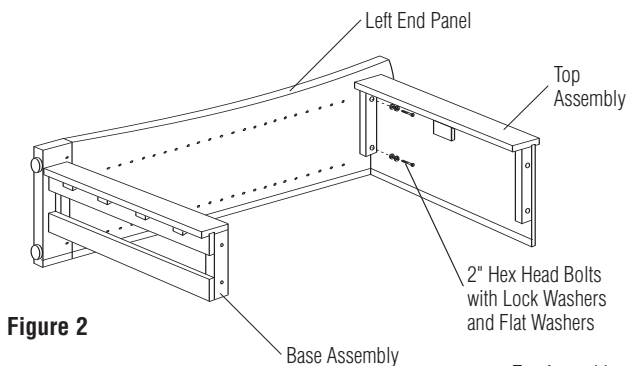

Figure 2
3. Align the side holes in the top assembly with the upper holes in the left end panel (Figure 2). Make sure the faceplate on the top assembly is to the front and that the back panel groove is to the back. Insert 2" hex head bolts with lock washers and flat washers into the top assembly and end panel. Tighten.